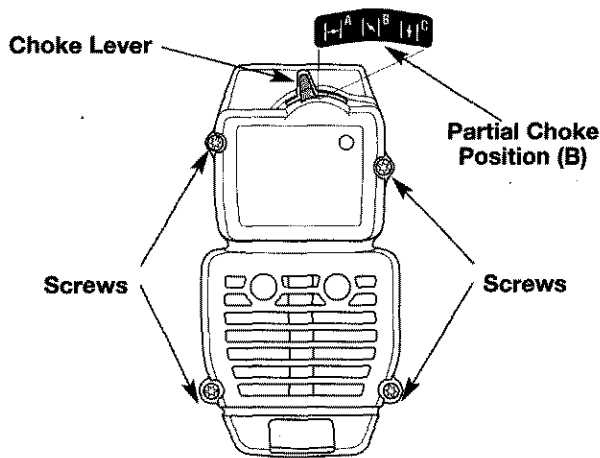

Fig. 35
NOTE: The choke lever must be in the **PARTIAL** choke position (**B**) (Fig. 35) to remove the air filter/muffler cover.
2. Remove the four (4) screws securing the air filter/muffler cover (Fig. 35). Use a flat blade or T20 Torx bit screwdriver.
NOTE: The choke lever must be in the **PARTIAL** choke position (B) (Fig. 35) to install the air filter/muffler cover.
2. Insert the four (4) screws into the holes in the air filter/muffler cover (Fig. 35) and tighten. **Do not over tighten.**